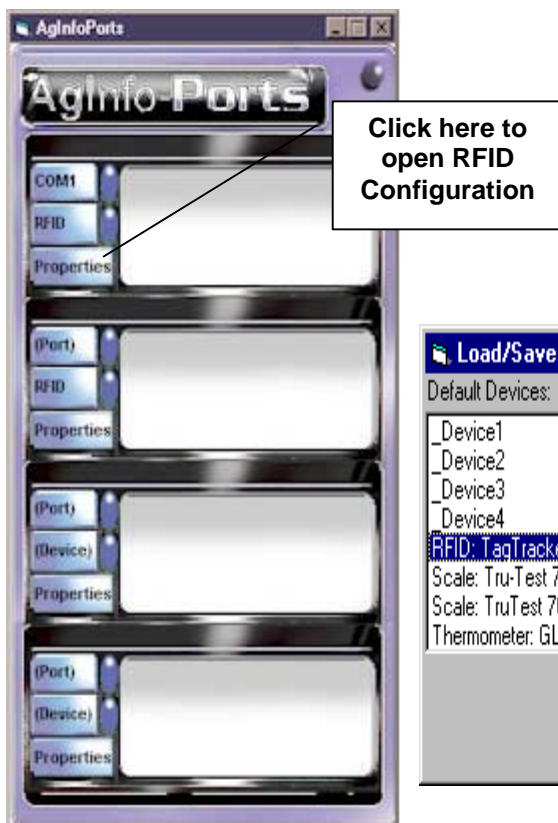

Figure 17
- By setting com1 as an RFID you can select defaults for which type of tags you will be working with; To do this, close Device1 Properties by clicking on the close button in the uppermost right corner of the form, and click on the “Properties” button in the window for com1[See figure 17].
- If your Tag Tracker and Base station are connected and configured correctly, when you open up AgInfoPorts your first port window should look like the above picture [figure 17].